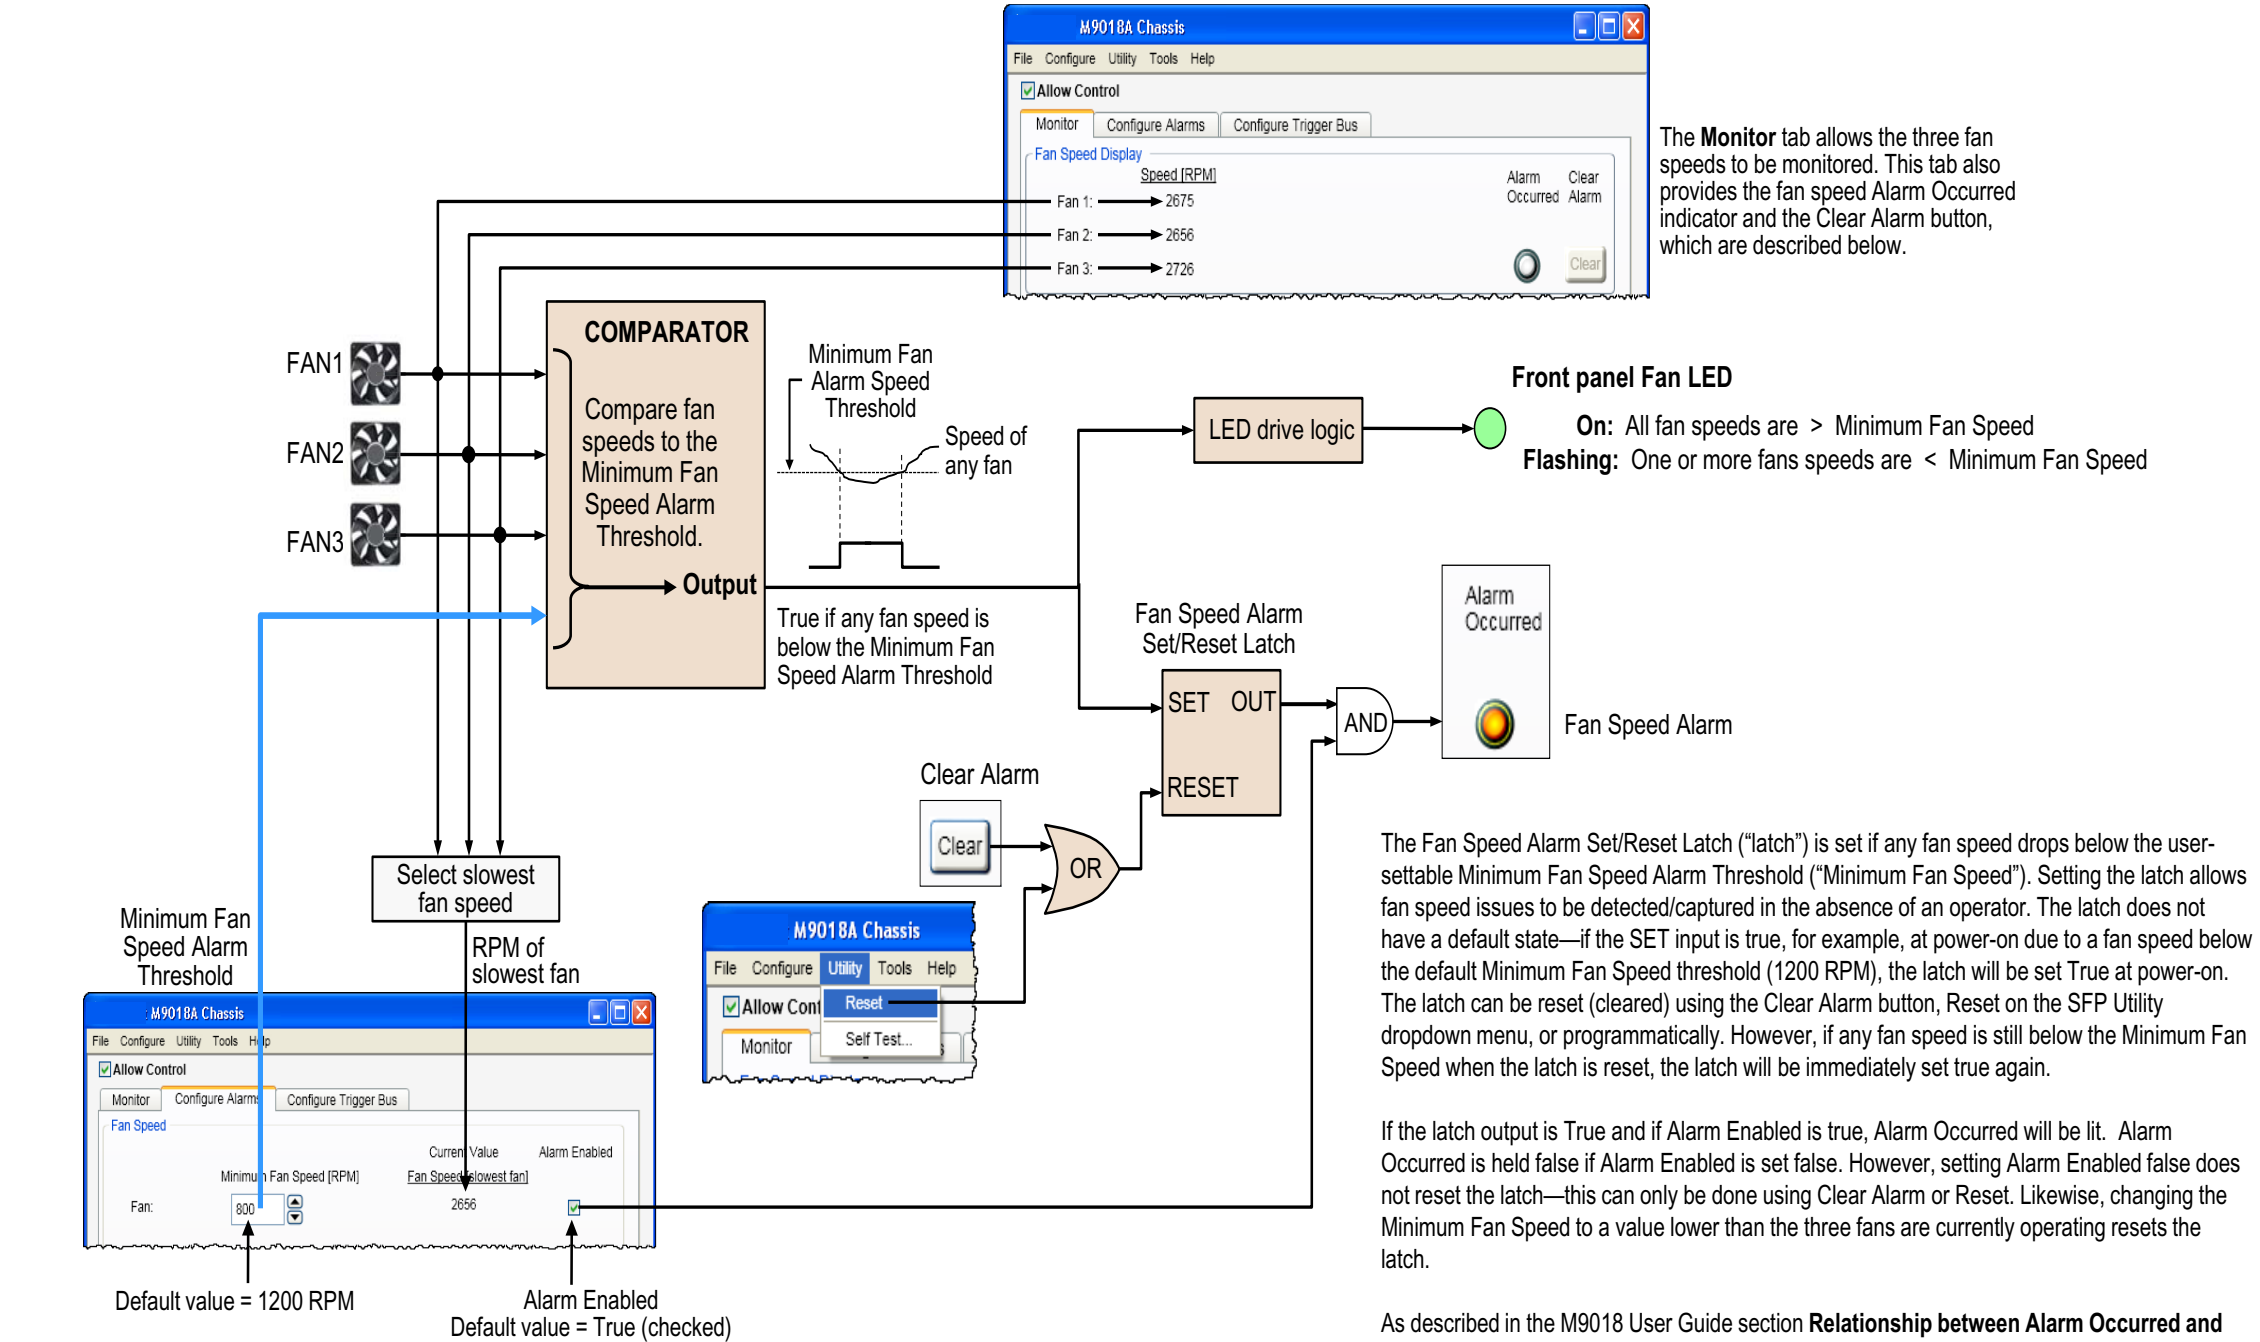

Figure 17 Fan speed monitoring using the SFP and the front panel Fan LED
- SFP and the front panel Fan LED – Figure 17 on page 42